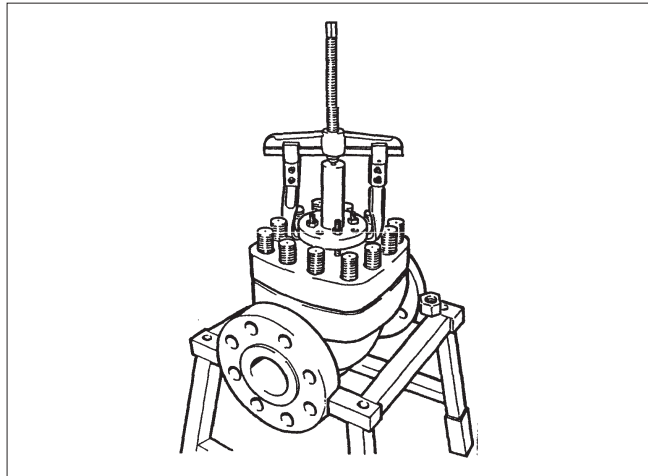

Fig. 10 Lifting the bonnet
- Remove the bonnet gland nuts and lift off the bonnet. If necessary use an extractor to grip the gland. See Fig. 10.